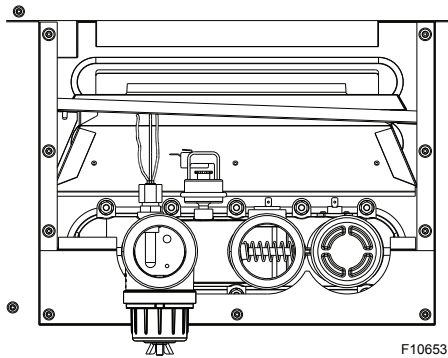

Figure 34. Component Wiring Locations - In/out Header
2. Disconnect wires at high limit, AGS (automatic gas shut-off), pressure switch on the in/out header and ProTek Shield bonding wire. See **Figure 34**.